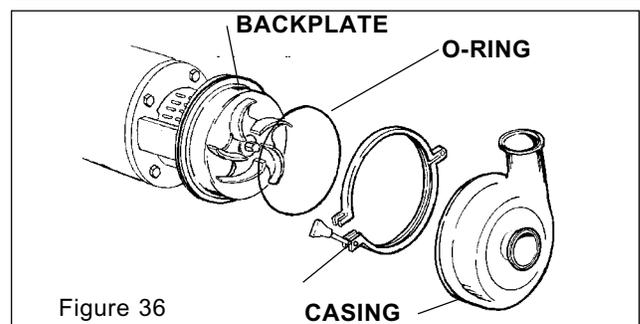

Figure 36
9. Install casing O-ring on backplate and clamp casing in place.(Figure 36)